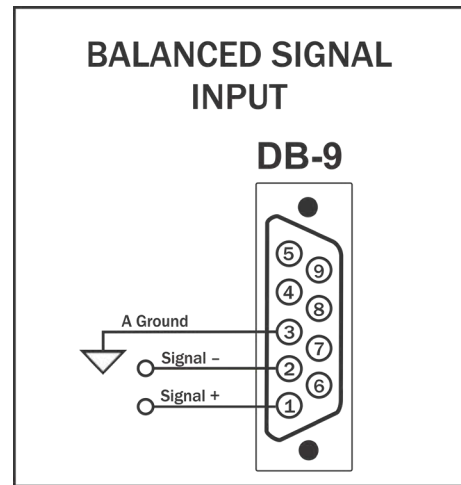

Figure 6.3 – Balanced Input Wiring on DB-9 Control Port
**Method:** Connect to your signal input device using Pin 1 (signal +), Pin 2 (signal –) and Pin 3 (ground) to a DB-9 connector. See **Figure 6.3**.